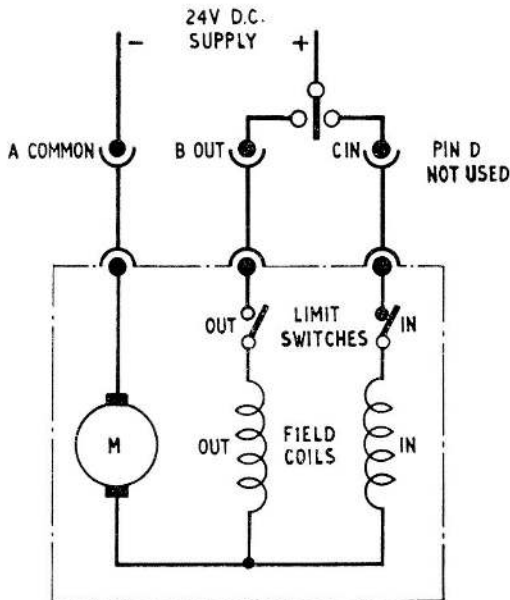

Fig. 2. Circuit Diagram.
*No brake coil is fitted in this actuator (fig. 2).*
8. The internal wiring (fig. 2) of the actuator is brought out to a 4-pole Breeze plug, which is mounted on an elbow of the gear casing. Pin D of the 4-pole Breeze plug is not used.